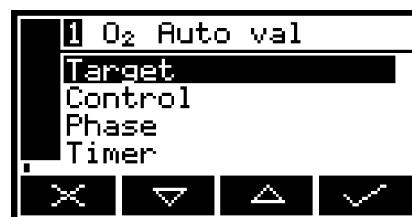

Figure 30 – The auto val/cal parameters screen
1. Return to the auto val screen (Figure 30). Select 'Control'.
1. Return to the auto val screen (Figure 30). Select 'Phase'.
1. Return to the auto val screen (Figure 30). Select 'Timer'.